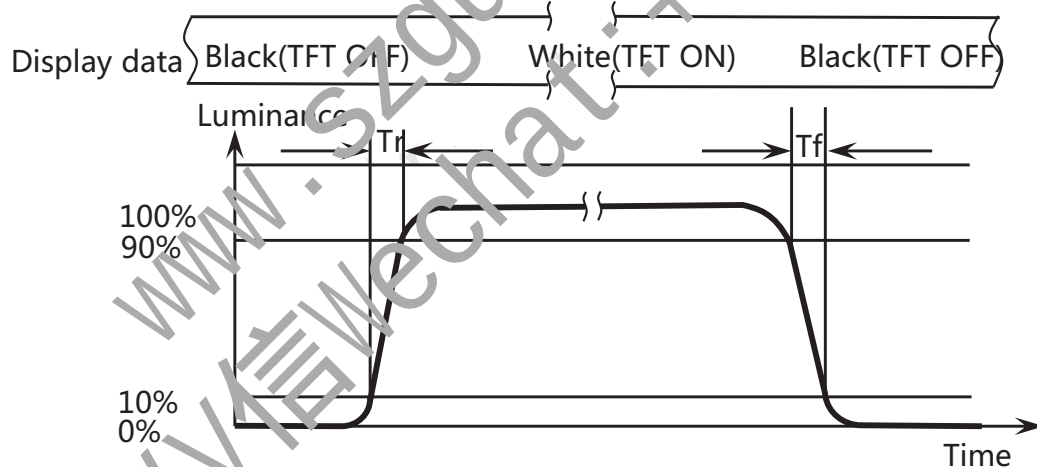

Figure 10. Response Time Testing
6. The electro-optical response time measurements shall be made as Figure 10 by switching the "data" input signal ON and OFF. The times needed for the luminance to change from 10% to 90% is T_r , and 90% to 10% is T_f .
The electro-optical response time measurements shall be made as shown in Figure 10 by switching the “data” input signal ON and OFF. Tr: The luminance to change from 10% to 90% ,Tf: The luminance to change from 90% to 10% .